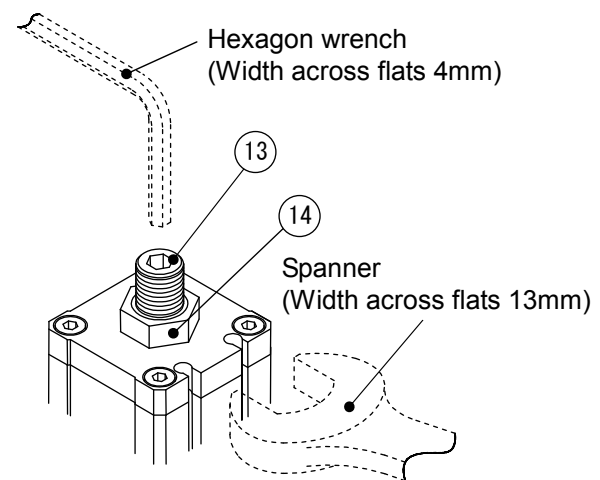

Fig.1
1. Loosen lock nut(14) to release locking.
Hold bypass valve adjusting bolt(13) with hexagon wrench to loosen the lock nut. (Fig.1)